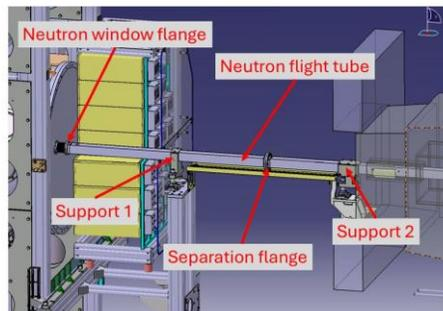

Figure 5: Neutron flight tube assembly.
2. Unmount SANS detector. Figure 5 shows left part of SANS already removed.